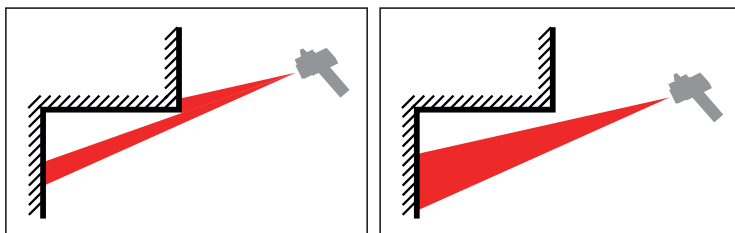

Fig. 13: Error source during measuring (1)
- there are obstructions along the measuring section (fig. 13 and 14).